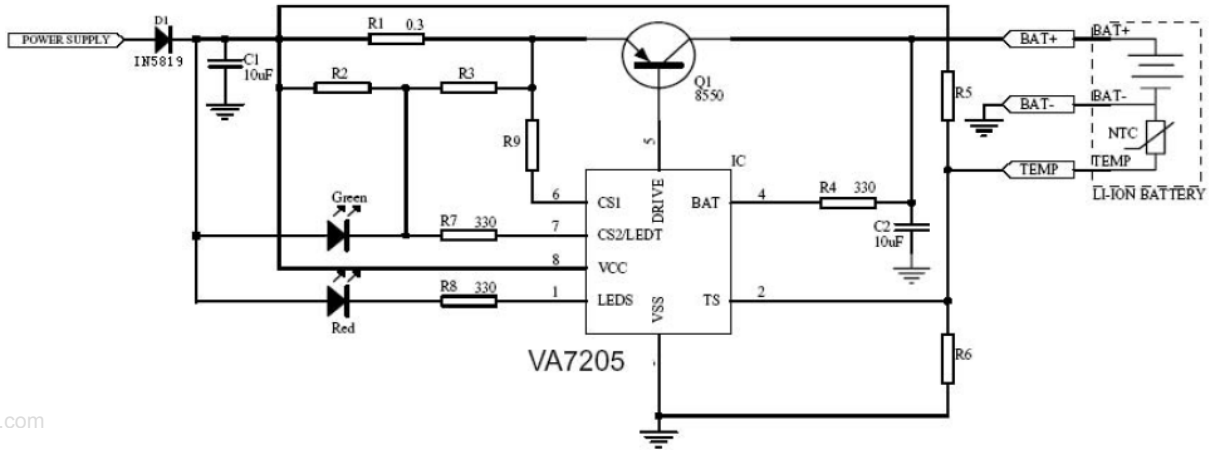
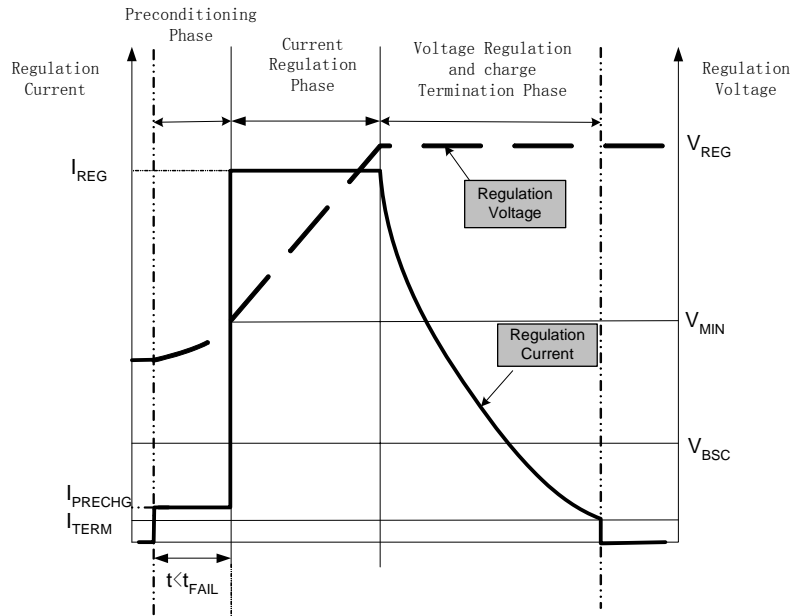

Figure 3 Li-ion/Li-Pol Charger Using a PNP Pass Transistor
Figure 4 Typical Charge Profile
2. Please use application circuit schematic in Figure 3 and Figure 5.
The VA7205 is an advanced linear charge controller for single Li-Ion or Li-PoL applications. Figure 3 shows the schematic of charger using a PNP pass transistor. Figure 4 is a typical charge profile. Figure 5 shows the schematic of a charger using P-Channel MOSFET. Figure 6 is an operational state diagram.
Charge qualification is based on battery voltage and temperature. If the battery voltage is below the pre-charge threshold  $V_{MIN}$ , the VA7205 uses pre-charge to condition the battery. The conditioning charge current  $I_{PRECHG}$  is adjustable with an external resistor R9 shown in Figure 3 and Figure 5. R9 is connected between CS1 pin and the emitter of external PNP or source of external PMOS. There is also an on-chip  $5.1K\Omega$  resistor connected between CS1 pin and VCC. During pre-charge stage, the voltage drop between VCC and CS1 pin is  $V_{CSPRE}$ , so the pre-charge current is set to be
Let's analyze Fig. 3, considering R2 is in parallel with LED Green, in addition, after finishing charging, R3 is in parallel with LED Green as well (R1 is very small so we can neglect its effect), therefore, both R2 and R3 cannot be too small or LED Green will be dim. Generally, we choose R2 and R3 over  $3k\Omega$ . In order to determine the value of R2 and R3, we first find the equation between R2 and R3.
From Fig. 3, we can get: